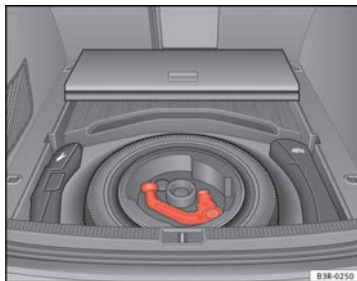

Fig. 166 Luggage compartment: Spare wheel with towing bracket
- Vehicles with a spare wheel ⇒ Fig. 166.